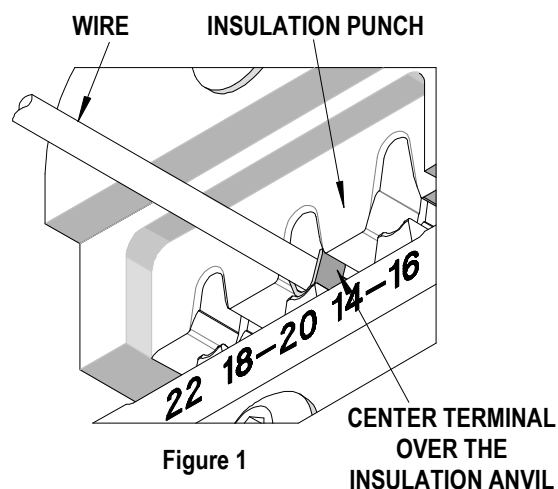

Figure 1
2. Holding the terminal at the contact end, place the terminal on the appropriate anvil into the locator. See Figure 1.